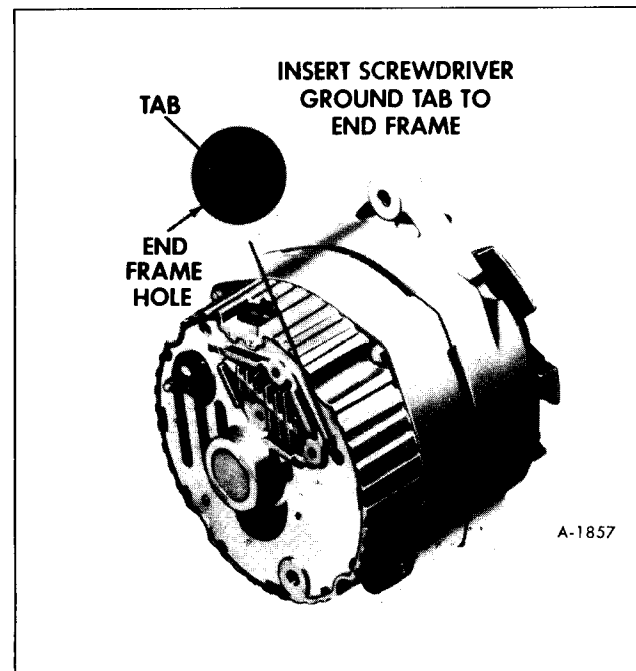

Figure 18—End View of Generator (Typical)
- b. If reading is less than 12.8 volts, ground field winding by inserting a screwdriver into the test hole in the end frame (figure 18).
- (1) If voltage increases (13 volts and above) regulator is defective and must be replaced. Repeat Steps 7 and 8 after new regulator unit has been installed.
- (2) If voltage does not increase significantly remove generator and repair.
7. If output is not within 10% of rated output, ground the generator field (figure 18)